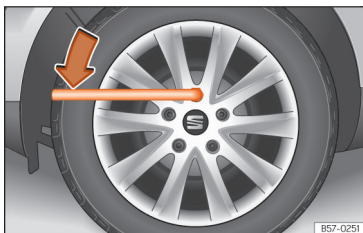

Fig. 252 Tyre change: slacken the wheel bolts.
- Fit the box spanner into the bolt as far as it will go >>> Fig. 252.